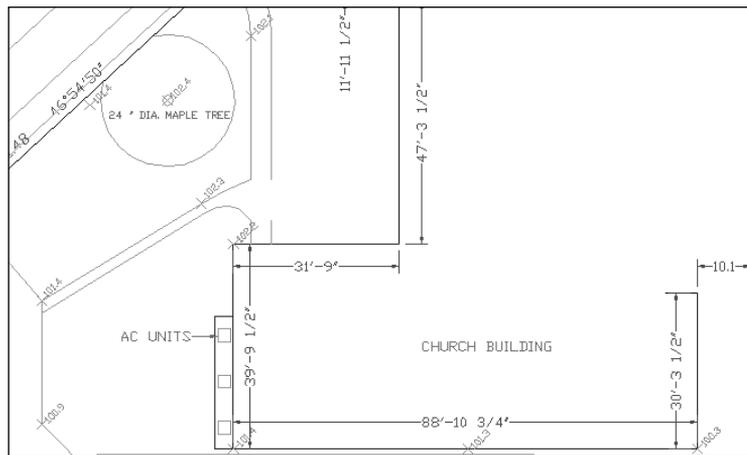

Figure 10-28: The edited site plan.
- Save your drawing. It should look like Figure 10-28.